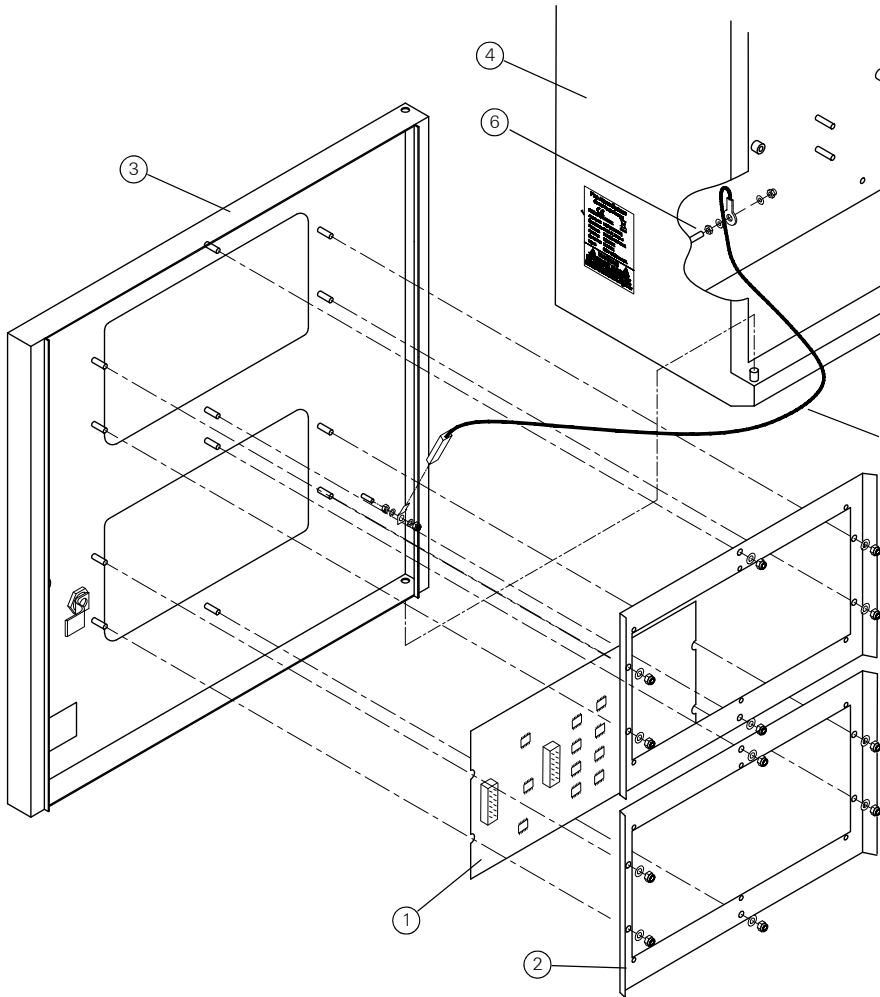

Fig. 6: Door Modules – Clamp Frame Fitting
instructions). At the housing connect this to the the protective earth stud (Item 6 in Figure 6).
- 2 Note that the item numbers in this procedure refer to Figure 6.